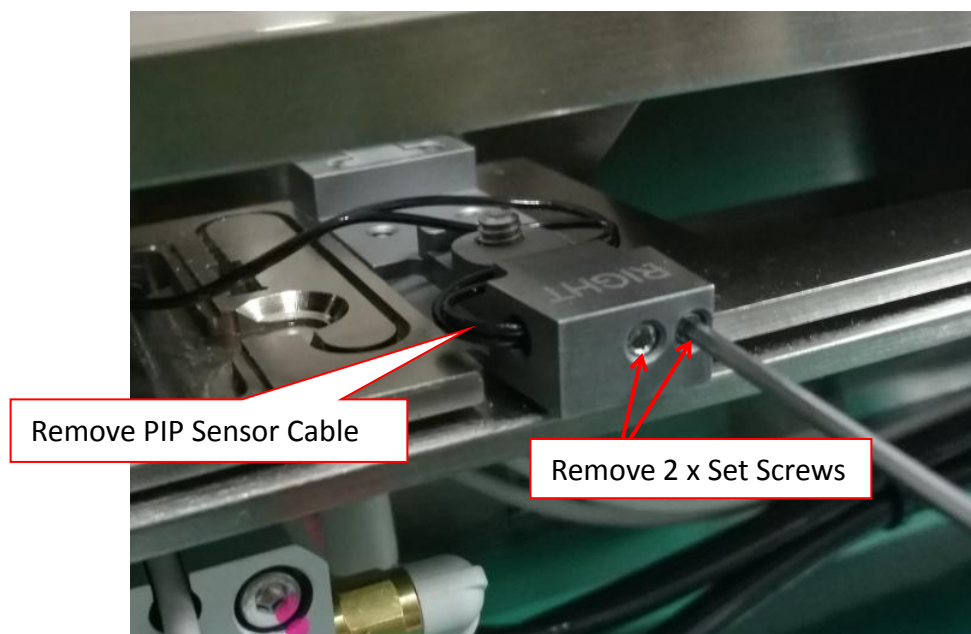

Figure 29 PIP Sensor Cable Removal
8. Loosen 2 x Set Screws & remove PIP Sensor Cable as shown in Figure 29